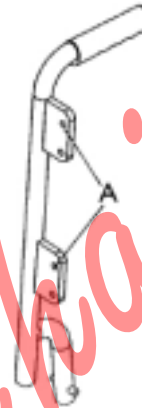

Fig. 1
- Remove the existing pan-head screws from the top of each flange shown in Fig 1. Marked (A). The lower screws of each flange remain in place.